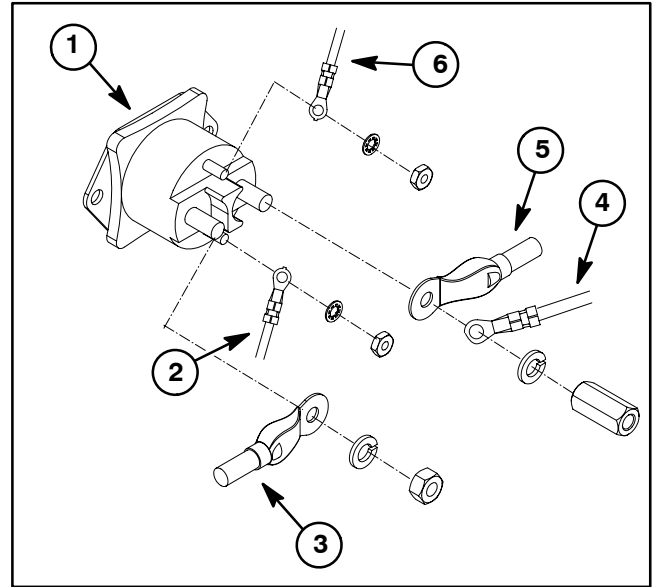

Figure 8
4. Disconnect wires from starter solenoid (Fig. 8).